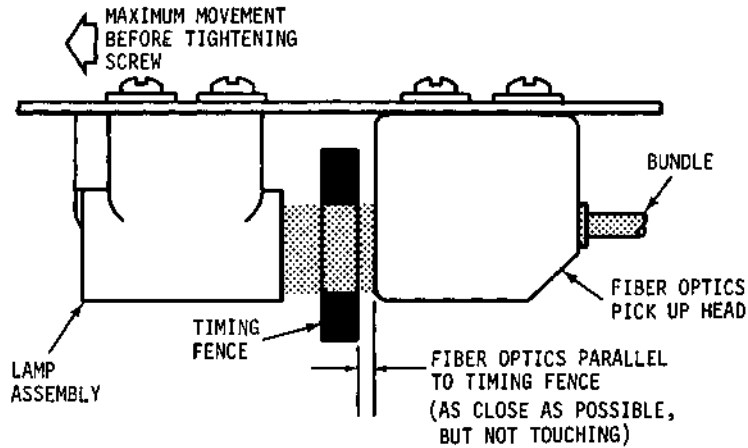
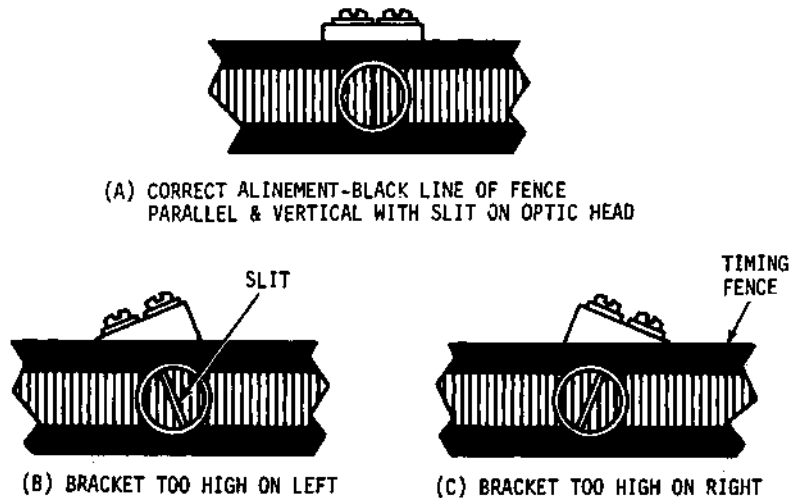

Figure 5-23. FIBRE OPTICS HEAD, ADJUSTMENT FROM OPTIC FENCE
Figure 5-24. FIBRE OPTICS HEAD ALINEMENT AND FLEXIBLE TIMING FENCE
- (a) Loosen screws and washers (28, 29, 30) and push upward on right side of bracket so that top of right angle bend is flush and parallel with surface of printer carriage unit. Tighten allen screws (28) so that slight tap would shift position of bracket.
2. Lamp Holder Housing (43)
- (a) Remove screw, washers (6, 39, 40) holding lamp assembly (41) and lamp (42). Set assembly aside with attaching hardware.
- (b) Loosen screws and washers (6, 7) on top of video amplifier board (26) holding lamp holder housing (43).
- (c) Move housing backwards (towards operator) on screw adjusting slots of board to maximum distance. Tighten screw and washers. (See Fig. 5-23)
3. Fibre Optics Head (8)
- (a) Loosen screws, flatwashers (6, 7) holding optic head to video amp. board (26).
- (b) Move optics head toward timing fence (27) but not touching. (See Fig. 5-23). Allow lead of optic bundle (part of fibre optic head, 8) to hang freely.
The following adjustments must be made to simulate correctly aligned lamp (GE-379) so that when adjustments are final, the lamp (42) is inserted and this light source is then directed properly through the timing fence (27) to slit on fibre optic head (8) (Fig. 5-23).
- (c) Adjust front face of fibre optics head so that it is physically parallel with timing fence and as close to fence without touching (Fig. 5-23).
- (1) If face of optics head is not parallel with respect to the vertically suspended timing fence, physically bend the bracket (47) slightly up or down to maintain vertical parallelism. Tighten screws (6) on optic head (8).
- (2) Move print head by hand along front and rear guide bars (25, 21) all the way to the right and back to starting position to ensure that timing fence and the face of the fibre optic head surfaces do not touch each other.
- (3) If surfaces are contacting, re-check timing fence alinement at para. 5.2.2.3.A.
4. Sighting Through Lamp Housing (43)
- (a) From a position in front of flexible timing fence, and with fibre optic bundle pointing to a light source, sight through lamp housing timing and observe illuminated slit on optics head (8) on other side of fence. When sighting, make sure light slit is completely blocked by any black line on the timing fence (See Fig. 5-24/A) (adjust by carriage movement).
The following two conditions may apply to the illumination in previous step 4.(a) when the slit on optics head is out of alinement with respect to the black line on timing fence (Fig. 5-24, A).
- (b) If the bracket (and board, 47, 26) holding the optics head is too high on right (Figure 5-24, B), tap bracket to aline slit and black line as shown in Figure 5-24, A).
- (c) If the bracket holding the optics bundle is too high on the right (Fig. 5-24, C), tap bracket to aline slit and black line as shown in Fig. 5-18, A).
- (a) Insert lamp (42) (GE-379) into socket assembly (41) attached to lamp retainer (part of lamp ass'y), but note that prior to insertion into lamp ass'y, be certain lamp filament (inside lamp) is in a vertical plane paralleling slit with respect to the opposing fibre optics head (for maximum blockage of light by black line on fence (Fig. 5-24, A). Insert lamp retainer (part of lamp ass'y), and tighten screws, washers (6, 39, 40).
- (b) Install optic bundle lead of fibre optic head (8) into photo cell housing ass'y (3) installed on the top center of video amplifier board (25). Tighten screw, washer (4, 5) on clamp of photo cell housing.